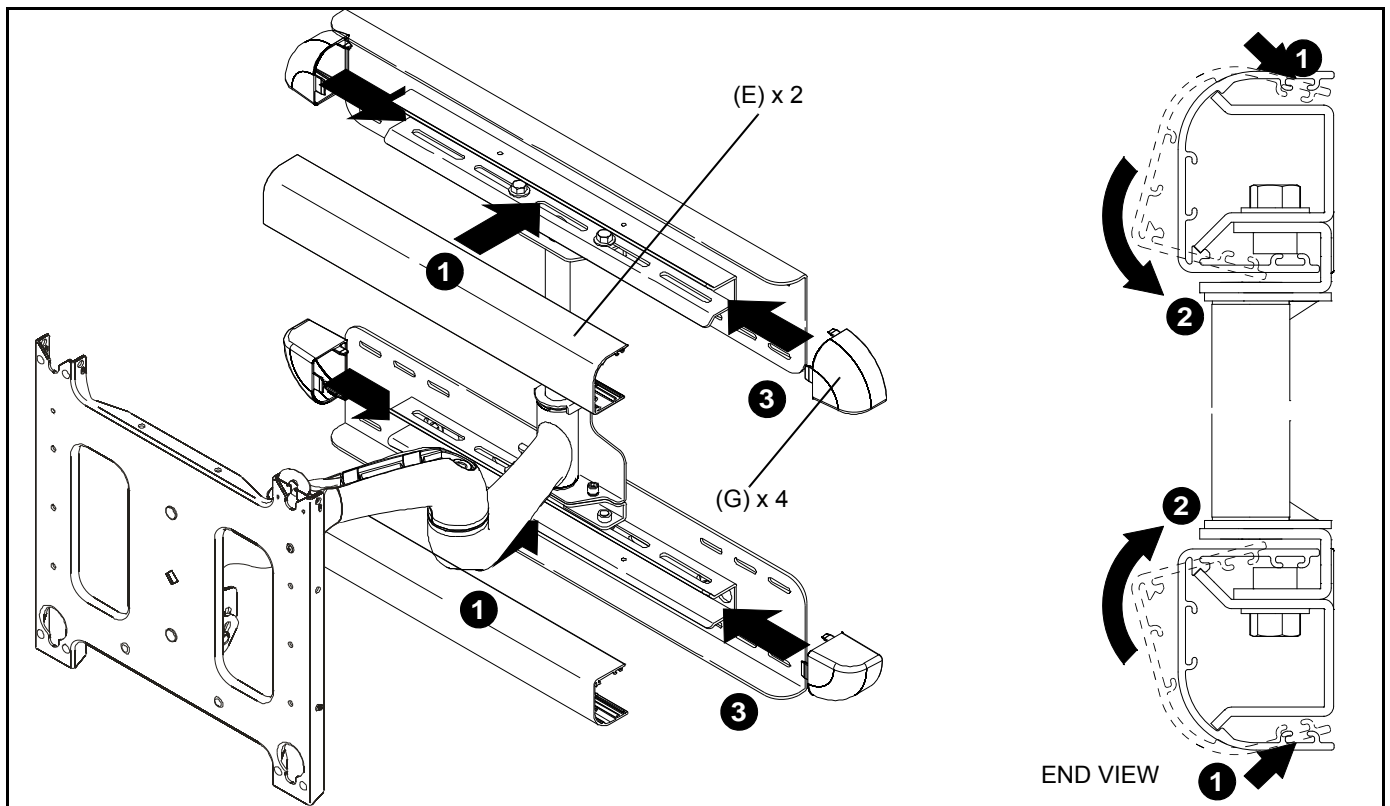

Figure 7
1. Install upper wall channel cover (E) by tipping cover top down and positioning as shown in figure below. (See Figure 7)
2. Lower bottom of upper wall channel cover (E) and tap firmly across bottom of channel to lock in place as shown in figure below. (See Figure 7)
3. Install R.H. and L.H. end caps (G) by aligning tabs on end caps with slots in wall channel and sliding tabs into channel until end cap is flush with wall channel cover cover (E).